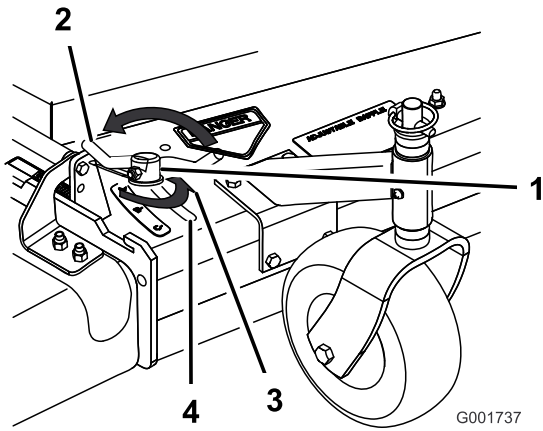

Figure 13
- To adjust the cam lock, swing the lever up to loosen the cam lock (Figure 13).
- Swing the lever back over to tighten the baffle and cam lock (Figure 13).